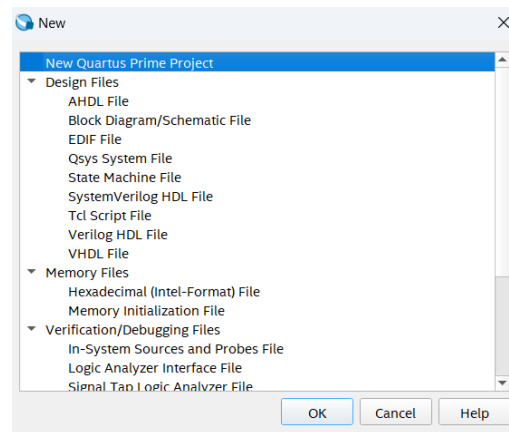

Figure 11 - Selection of the file type to create (Block Diagram / Schematic File).
3. Create a new file for a schematic diagram (“File→New” menu) according to Figure 11.